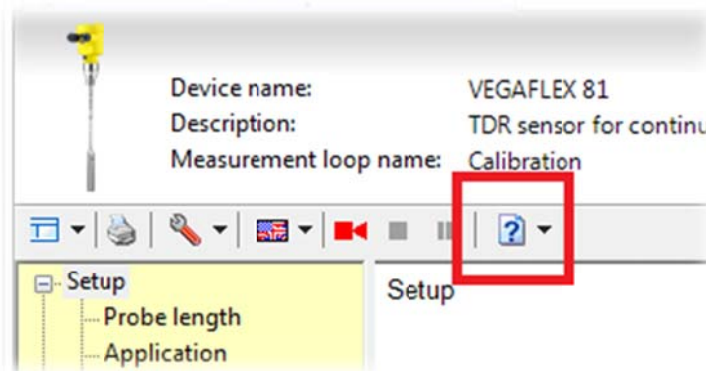

Figure 2
7. Click drop box for help and click "info about" seen in figure 2. At the bottom where it says license is where you will put in the license given above